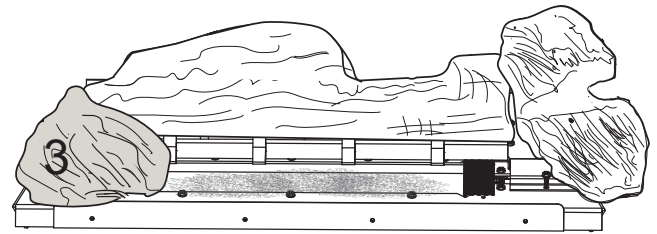

Figure 13 - Log #3 Placement
4. Hold log #3 in your left hand with the flat surface down. Place log #3 by matching the two notches on the bottom of the log with the grate bar on the left and the pointed end of log #1. See Figure 13.